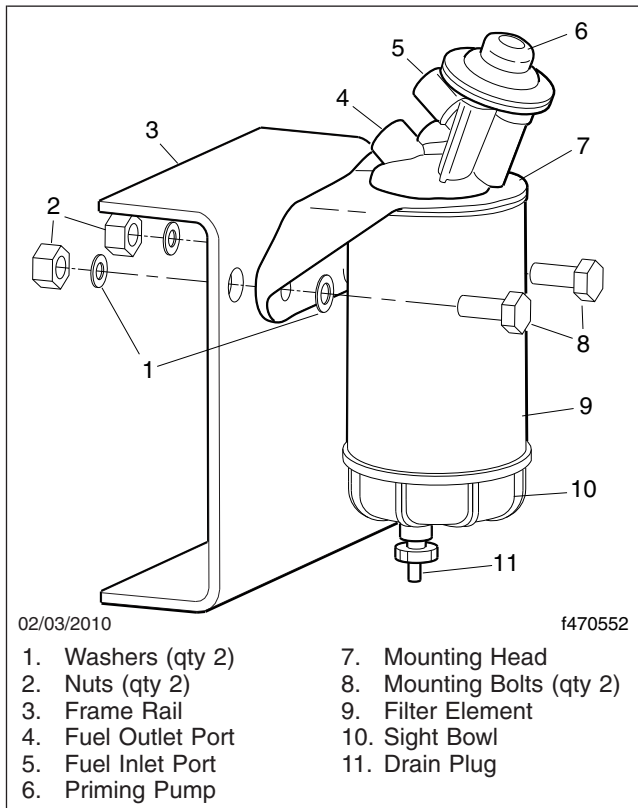

Fig. 21.13, Alliance Fuel/Water Separator Assembly and Installation
4.2 *Alliance/Racor Models:* Turn the drain plug counterclockwise to open it. See Fig. 21.13.